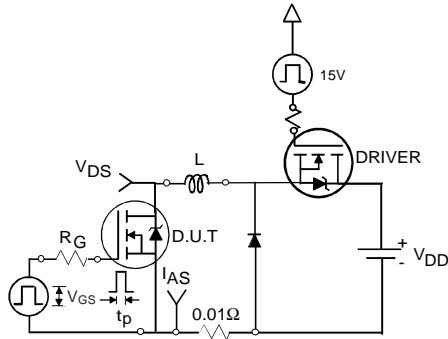

Fig 12a. Unclamped Inductive Test Circuit
- ③ Pulse width $\leq 1.0ms$; duty cycle $\leq 2\%$.
- ④ $C_{oss\ eff.}$ is a fixed capacitance that gives the same charging time as C_{oss} while V_{DS} is rising from 0 to 80% V_{DSS} .
- ⑤ Limited by T_{Jmax} , see Fig.12a, 12b, 15, 16 for typical repetitive avalanche performance.
- ⑥ This value determined from sample failure population. 100% tested to this value in production.
3. Equation below based on circuit and waveforms shown in Figures 12a, 12b.